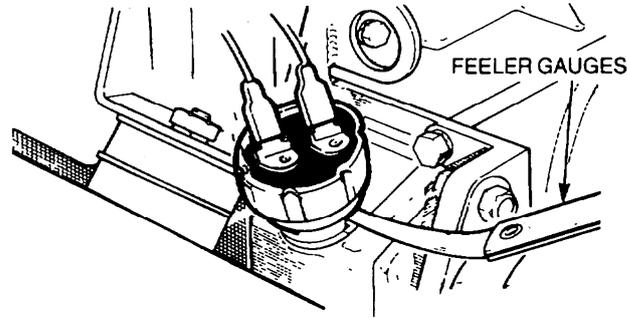

Figure 73 Differential Lock Engagement Switch Adjustment
- g. Using feeler gauges, measure the clearance between the switch lower face and the transmission (Figure 73).